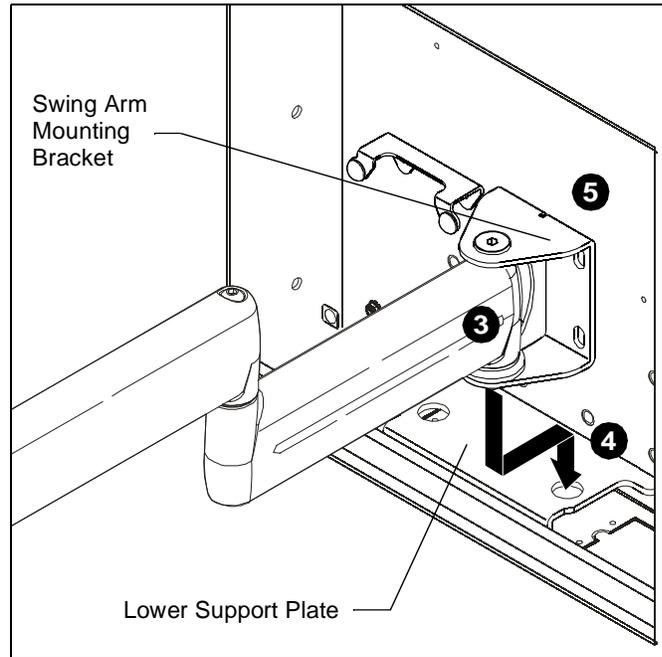

Figure 2
The MAC501 is designed to accommodate 4-1/2" of right or left display offset. This is accomplished by aligning the JWDIW with either the right hand or left hand hole in the MAC501 bottom support plate. The bumper mounting bracket is installed on the side opposite the side used for installing the JWDIW swing arm. (See Figure 2)
3. Align bottom of swing arm pivot pin with hole in lower support plate. (See Figure 2)
4. Lower swing arm until pivot pin rests in hole in lower support plate. (See Figure 2)
5. Align four mounting holes in swing arm mounting bracket with four mounting holes in MAC501. (See Figure 2)